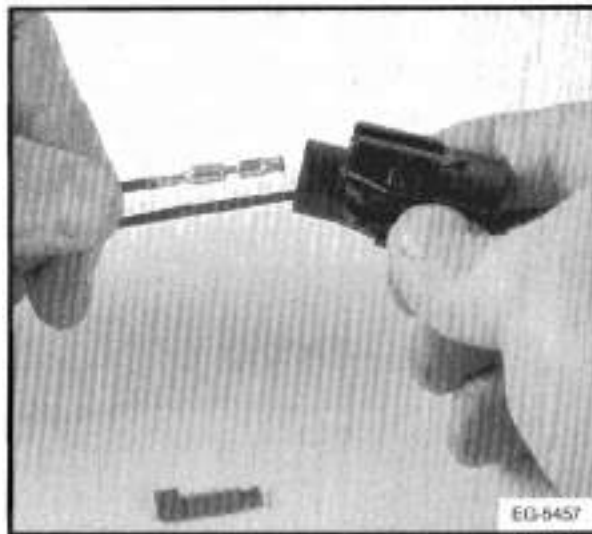

Figure 6-22. - Remove Terminal From Connector
3. Pull the wire and terminal out of the connector body (Figure 6-22.).